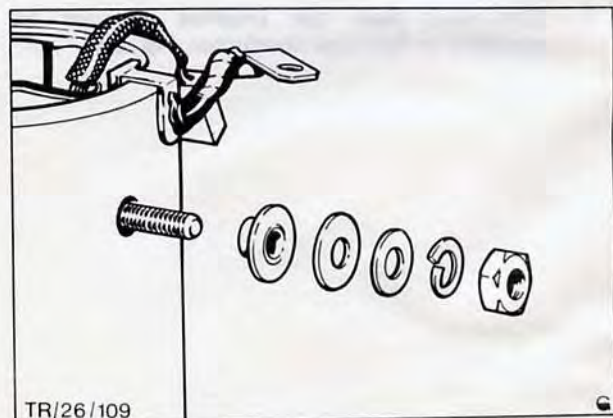

Fig. 65. Yoke terminal washer and seal assembly
- B. The build up of insulators, washers and seals on yoke terminal, Fig. 65.